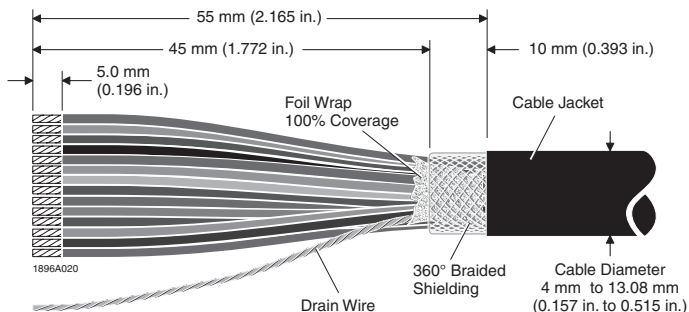

Figure 4. Strip-Length Requirements
The SUBCON 15 high-density connector can accept either one or two individual cables with an outside diameter ranging from 4 mm to 13 mm. Wire and cable recommendations are shown in Table 2. Figure 4 shows general stripping recommendations for cables with one or a combination of shielding types.
1. Strip 55 mm (2.165 in.) off the cable jacket. See Figure 4.